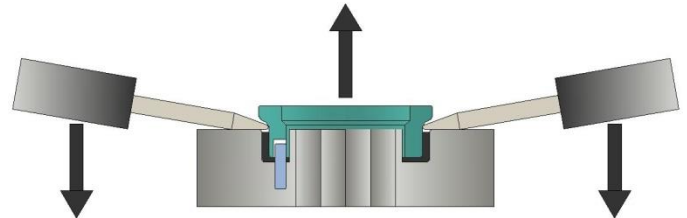

Figure 19 - Seal removal from rotor
- Only remove the rotary seal seat (80) from the back of the rotor (56) if you intend to fit a new seal or L cup rubber (83). Gently prize out the seat from the rotor using two soft levers to avoid scratching rotor and damaging seal face. (Figure 19).